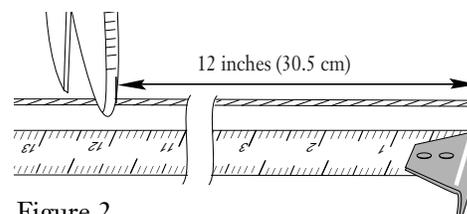

Figure 2
- Using the tape measure and scissors, measure and cut a 12 inch (30.5 cm) piece of used or excess pulling string from a micro-duct (Figure 2).